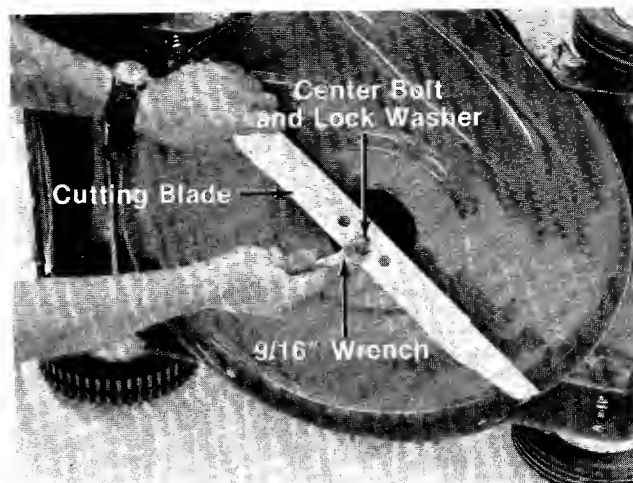

FIGURE 18.
2. Tip the mower on its left side. Remove the cutting blade by removing the center bolt and lock washer. A 9/16" wrench is required. See figure 18.